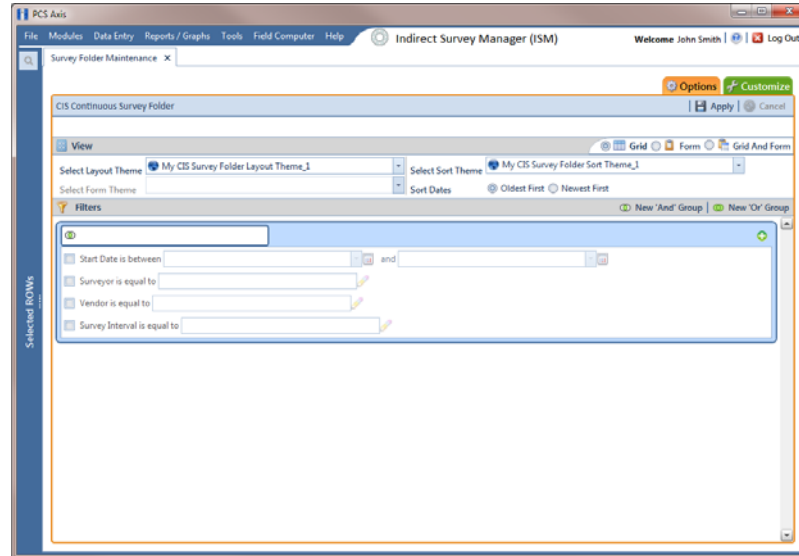

Figure 6-17. Options
- a Click the **Options** tab to open the options page (Figure 6-17, page 201).